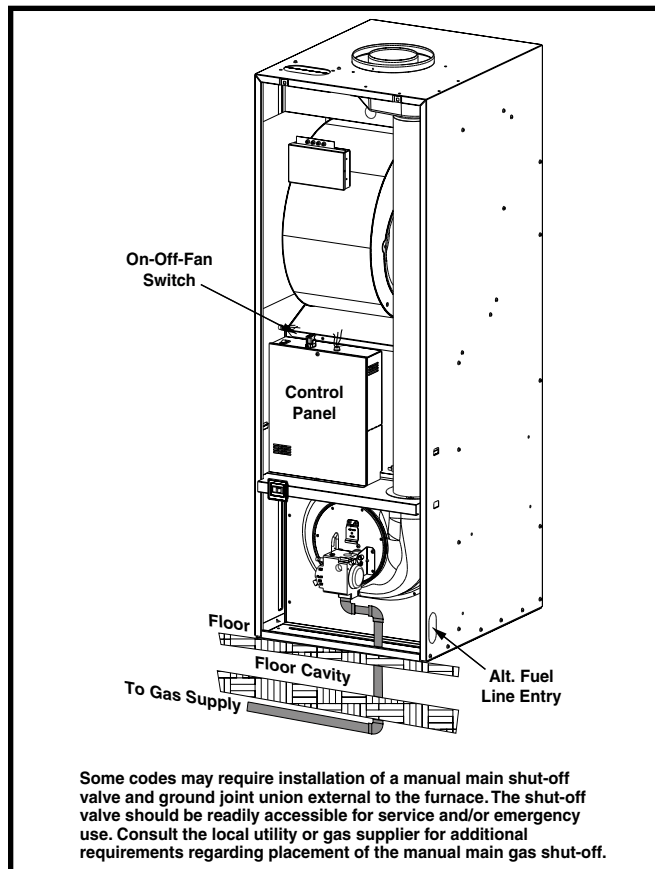

Figure 26. Typical Gas Piping
This furnace may be installed with left, right, or bottom gas entry. When connecting the gas supply, provide clearance between the gas supply line and the entry hole in the furnace casing to avoid unwanted noise and/or damage to the furnace. Typical gas service hookup for this furnace is shown in Figure 26.
- Some local regulations require the installation of a manual main shut-off valve and ground joint union external to the furnace. See Figure 26. The shut-off valve should be readily accessible for service and/or emergency use. Consult the local utility or gas supplier for additional requirements regarding placement of the manual main gas shut-off.
- Fuel line installations other than typical installations shown in Figure 26 must comply with the fuel piping provisions stated in the Federal Manufactured Home Standard (H.U.D. TITLE 24, PART 3280) and the National Fuel Gas Code (ANSI-Z223.1/NFPA-54).